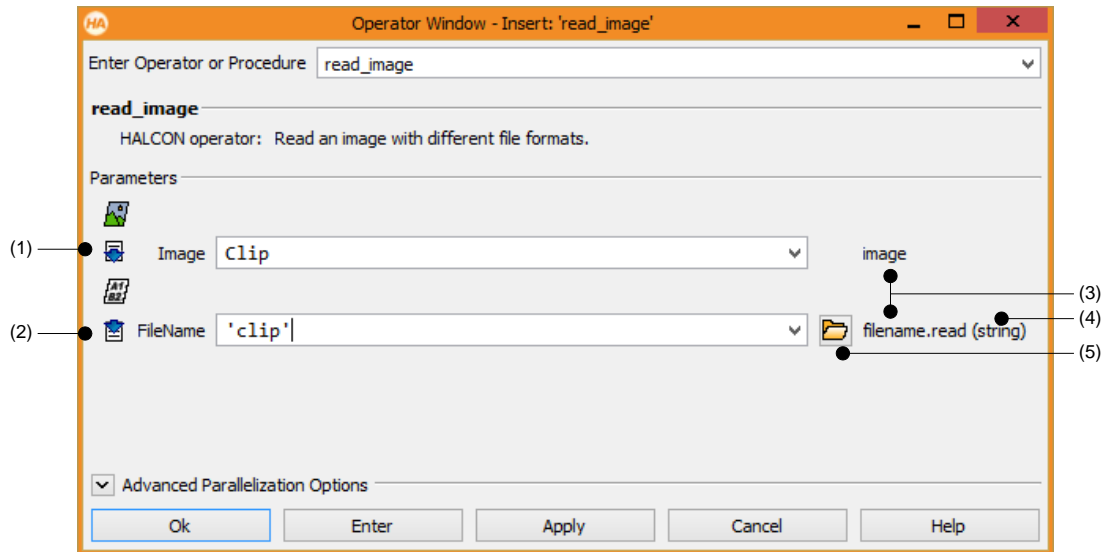

Figure 4.3: Specifying parameters: (1) iconic output parameter, (2) control input parameter, (3) semantic type, (4) data type, (5) file selection dialog.
After selecting an operator, its parameters are displayed in the operator window. They are grouped by iconic and control parameters. The icons next to the parameter names denote the parameter type: Input (2) vs. output (1) (see figure 4.3). The semantic type is displayed to the right of the parameters. Parameters are specified in the text fields. The first parameter gets the input focus.